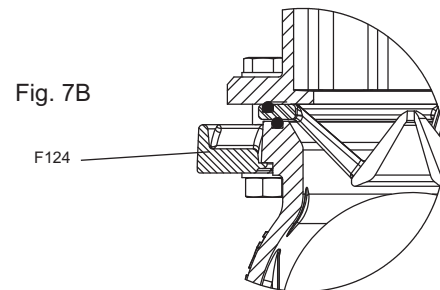
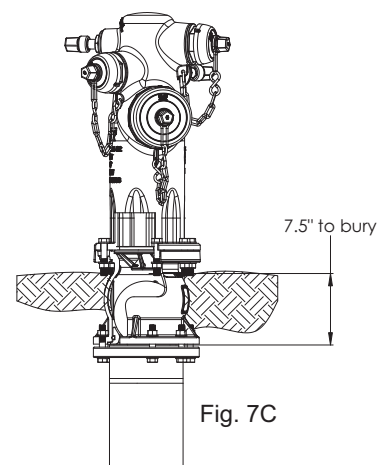

Fig. 7B
Fig. 7C
8. Carefully mount the Wet barrel assembly onto the FlowGuard II assembly with the Breakable Flange (F124) and mount with the mounting hardware as shown in Fig. 7B and Fig. 7C.